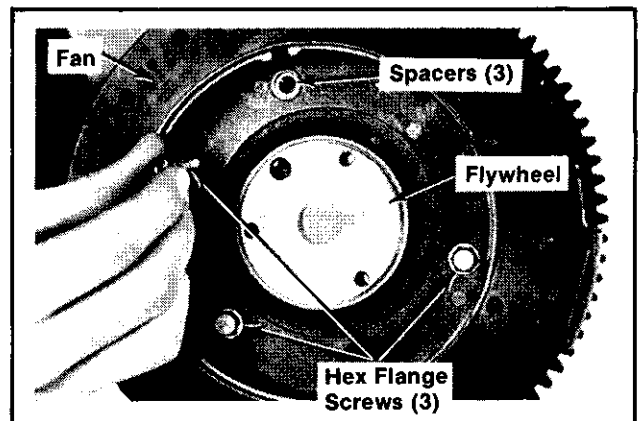

Figure 12A-22. Installing Fan To Flywheel.
1. Install the spacers, fan and hex flange screws. Torque screws to **115 in. lb.** Refer to Figure 12A-22.